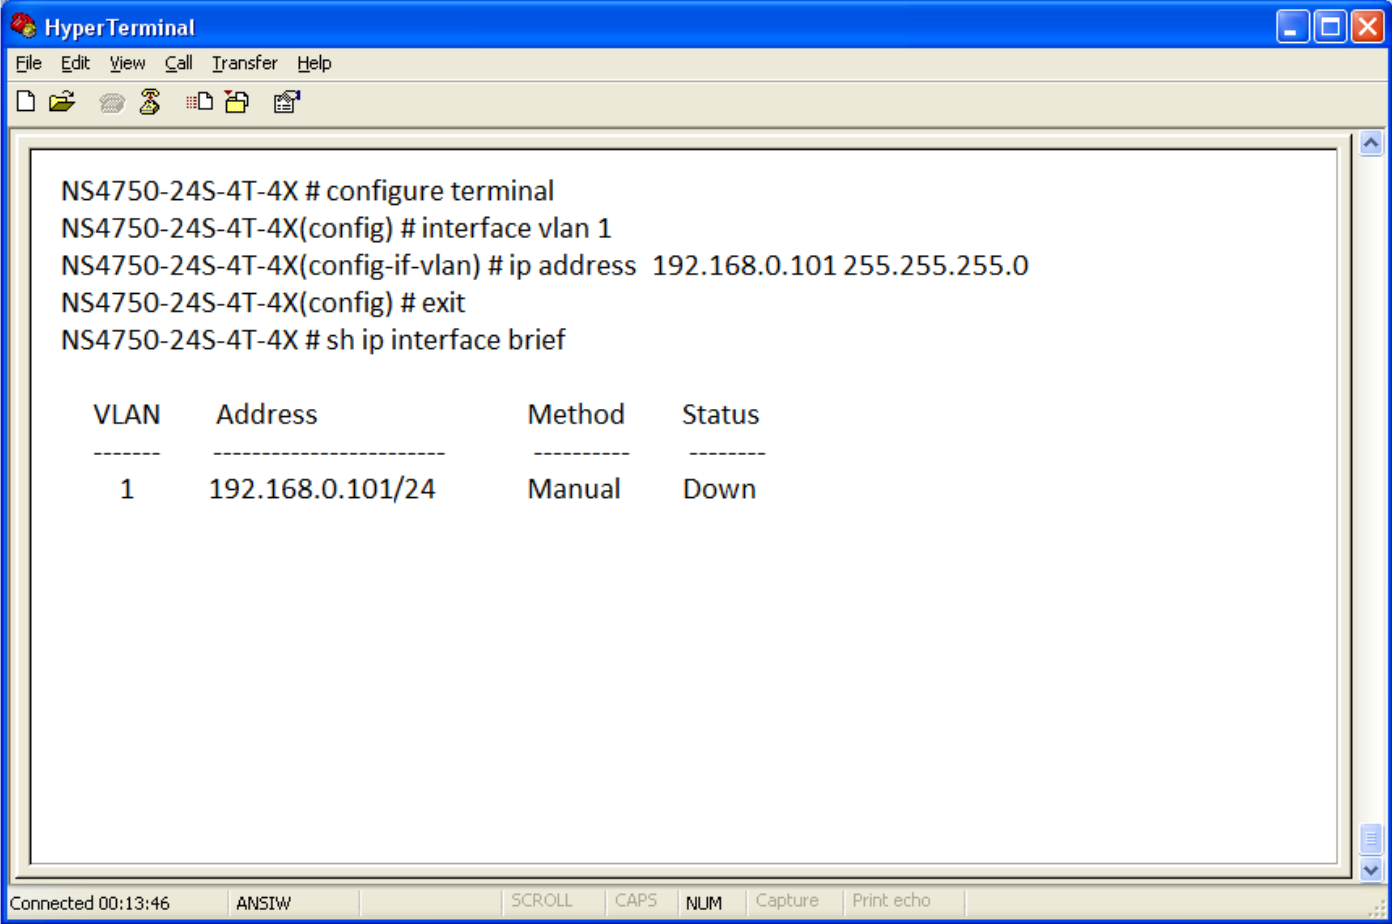

Figure 6-2: Set IP Address Screen
3. On “NS4750-24S-4T-4X# ” prompt, enter the following command and press <Enter> as shown in Figure 6-2.